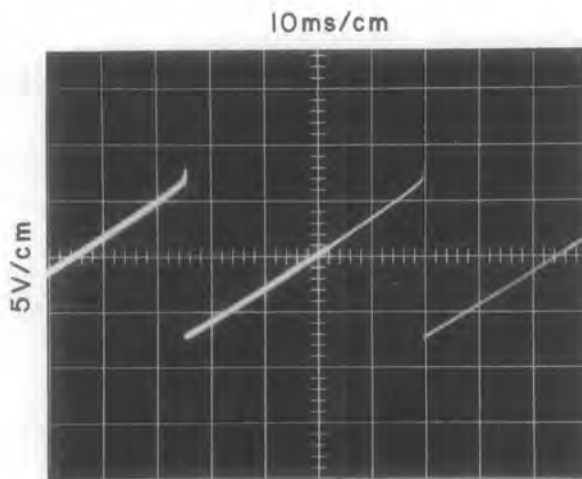

Figure 4-41. Typical Waveform, Sweep Oscillator Sawtooth
- (3) Set the receiver controls as follows:
- (4) Adjust the sweep rate calibrate potentiometer, A5A3R1, for a sawtooth period of 45.5 milliseconds (22 Hz). (With the oscilloscope horizontal sweep time set to 10 ms/cm each sawtooth should have a horizontal length of 4.55 centimeters on the oscilloscope crt .) Refer to Figure 4-41.
- (5) Adjust the horizontal width control, A5A3R5, fully clockwise.
- (6) Use the horizontal position control, A5A3R25, to center the trace.
- (7) Adjust the horizontal width control, A5A3R5, to expand the trace across the full graticule.
- (8) Turn the marker ON.
- (9) Adjust A5A1L6 to center the marker pip behind the center graticule mark.
- (10) Adjust the horizontal position control, A5A3R25, to move the pip one division to the left.
- (11) Adjust the horizontal width control, A5A3R5, to expand the right edge of the sweep trace to the last graticule division to the right.